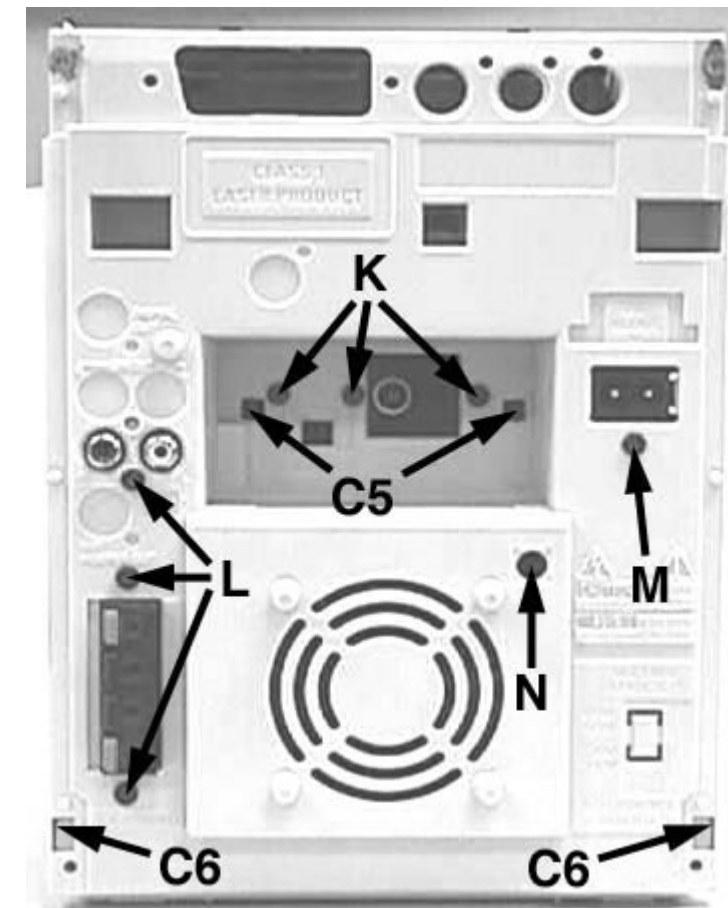

Figure 8
- 1) Loosen 3 screws K and 2 catches C5 (see Figure 8) to remove the Tuner Board assembly.
- 2) Loosen 3 screws L (see Figure 8) to free the Main Board.
- 3) Loosen 1 screw M (see Figure 8) to free the Mains Socket Bracket.
- 4) Loosen 1 screw N and 2 catches C6 (see Figure 8) to free the Panel Rear by sliding it out towards the rear.